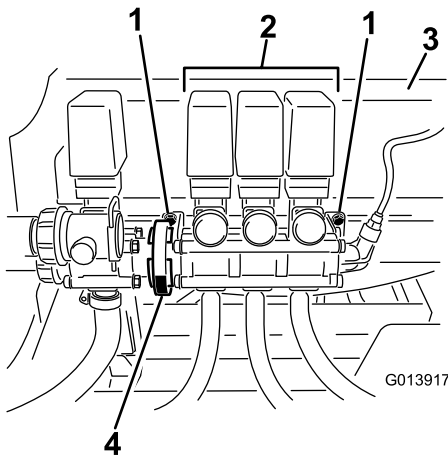

Figure 3
2. Loosen, but do not remove, the bolts securing the boom valve assembly to the mounting bracket (Figure 3).